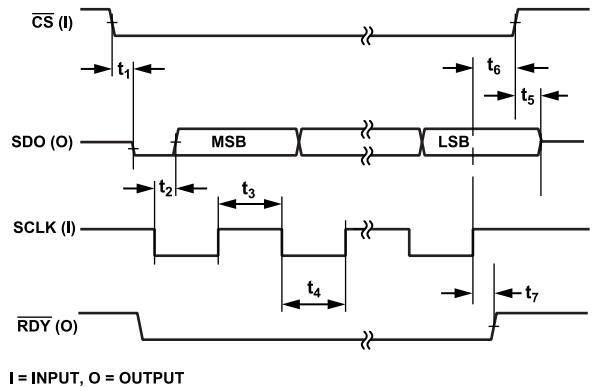
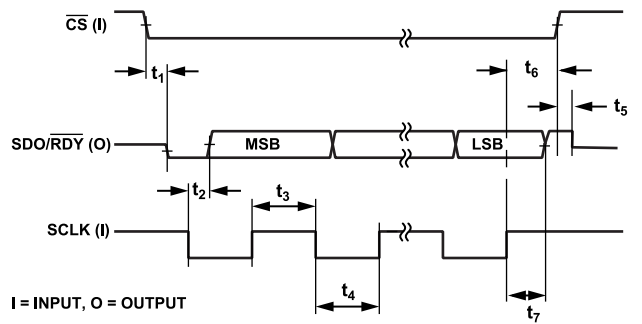

Figure 2. Read Cycle Timing Diagram (SDO and  $\overline{\text{RDY}}$  Use Separate Pins)
Figure 3. Read Cycle Timing Diagram (SDO and  $\overline{\text{RDY}}$  Share a Pin with Bit SDO\_RDYB\_DLY Cleared)
- 2 See Figure 2 and Figure 3.